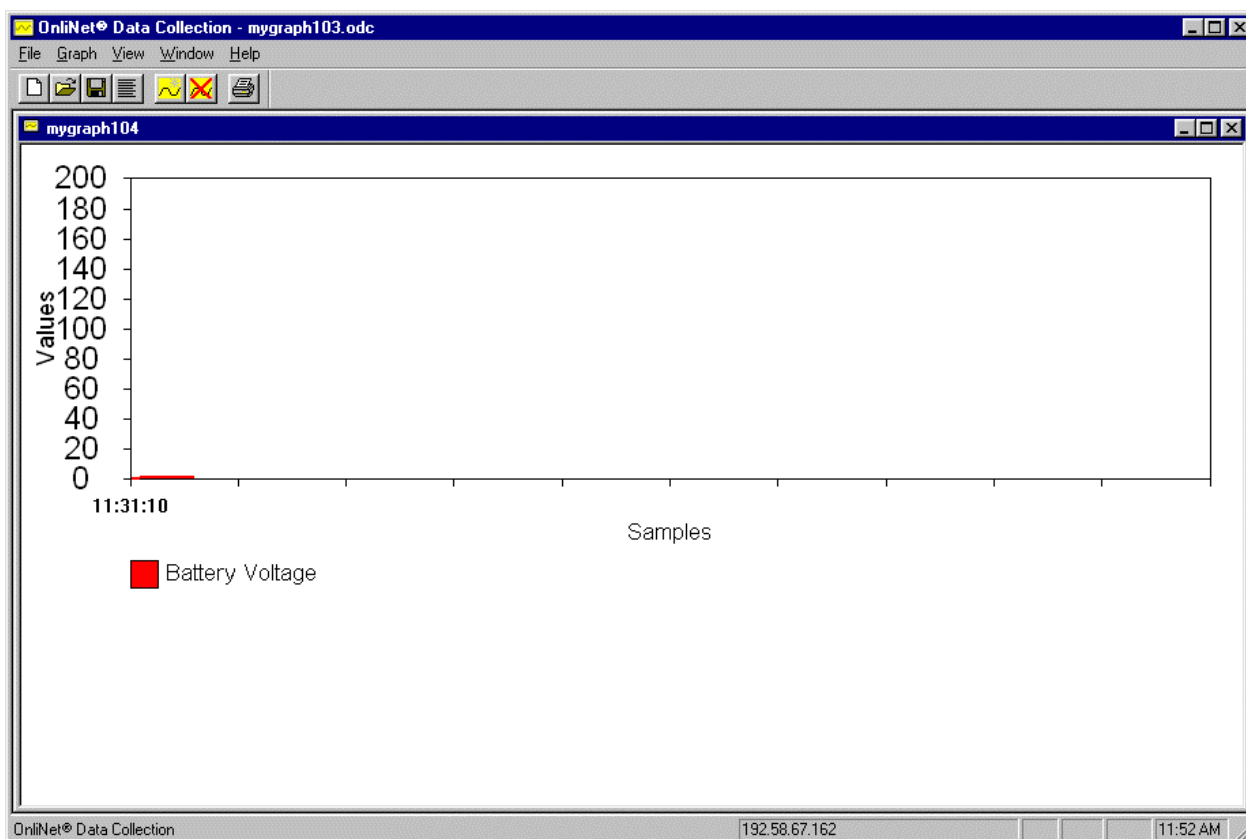

Figure 50. Graph Displayed in OnliNet Data Collection Dialog Box
7. The graph opens inside the OnliNet Data Collection dialog box (see Figure 50).